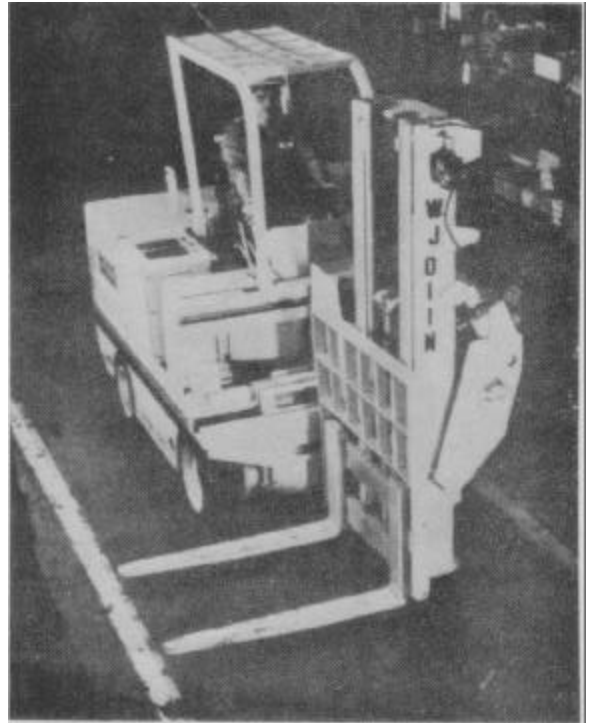

Figure 1-2.
2. When the mast shift and pivot features are utilized, it permits the front loading unit to operate in storage aisles as narrow as 56 inches wide. The mast assembly pivot and shift features of the Drexel unit simulates the right angle turning of a conventional front loading truck in a wide storage aisle. (Figure 1-2).
2. With the mast in the side loading position (Figure 1-2), full left shift is possible. Pivoting counterclockwise is possible until the restricted zone is reached and additional pivot rotation is restricted. Side shifting the mast to the operator's right side, beyond the restricted zone, will allow complete counterclockwise pivot rotation.